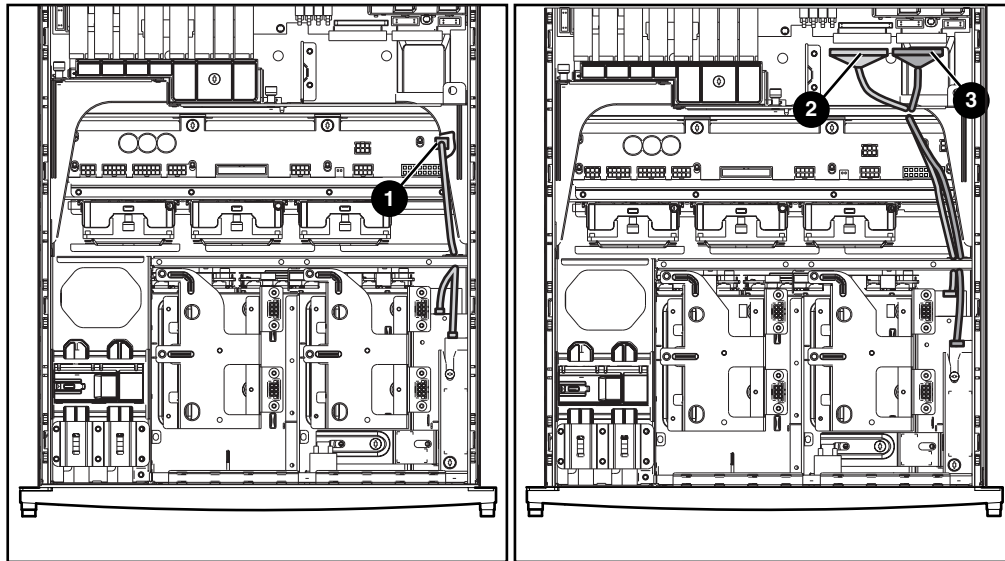

Figure 2-21. Power and signal cables for the CD-ROM and diskette drives
3. Power and signal cables for the CD-ROM and diskette drives (orange and purple cables, respectively). See Figure 2-21.